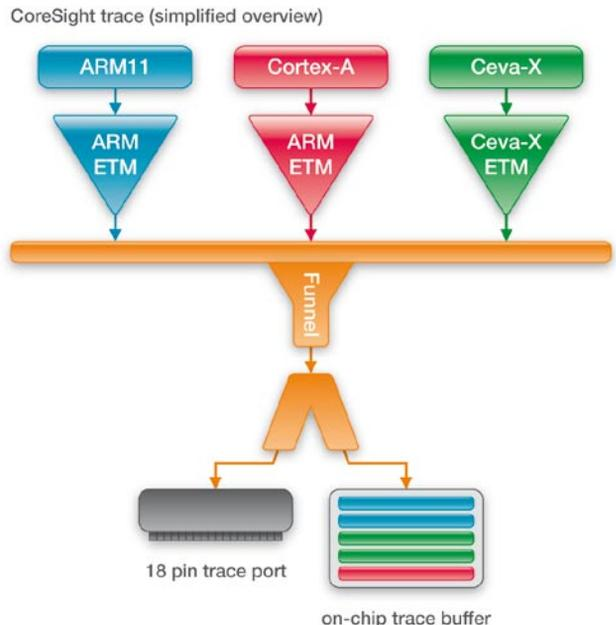

Fig. 15: Every core generates its own trace information
- Ceva-X ETM for the Ceva-X (see also Figure 15)